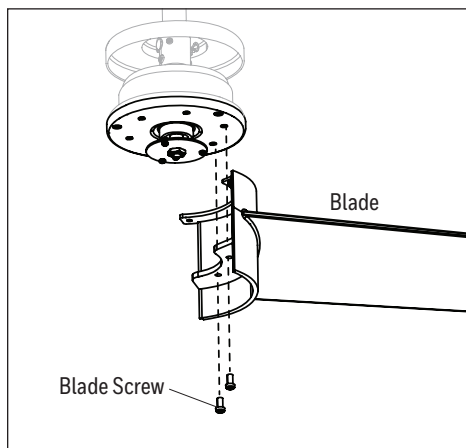

Figure 5.3
3. Align the holes of one blade with two blade screw holes in underside of the motor assembly. Secure with the two blade screws. Repeat this step for the remaining blades (Figure 5.3).